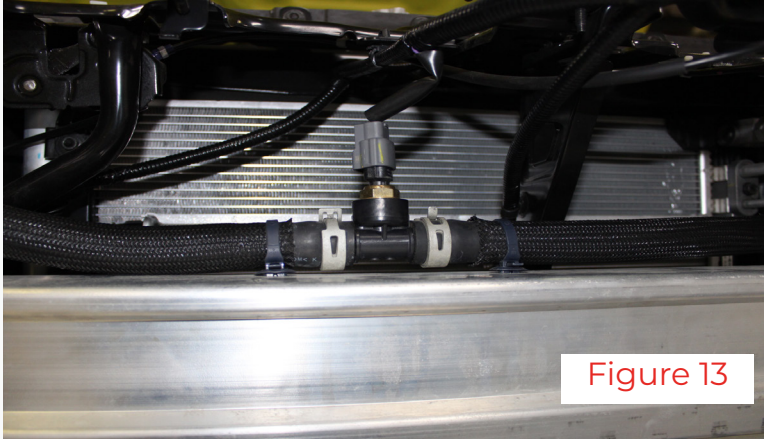

Figure 13
3. Remove the foam from the crash beam by pulling it towards you. Next, disconnect the coolant line from the crash beam (Fig 13) as well as the 2 sensors located on the crash beam. (Fig 14 & 15) Be sure to also unclip the electrical harness from it's mounts on the crash beam. (Fig 14) Finally, remove the 4 fasteners holding the crash beam on each side to the vehicle and remove it. (Fig 16)